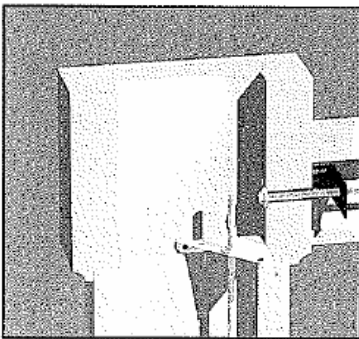

Fig. 7C
- F) Install a  $\frac{3}{8}$ " USS FLAT WASHER, a  $\frac{3}{8}$ " LOCK WASHER and a  $\frac{3}{8}$ " - 16 HEX NUT onto the THREADED ROD assembly. Tighten the entire assembly to 100 in-lbs. torque (Fig. 7C). This step may be completed after entire assembly process, or as each section is completed.